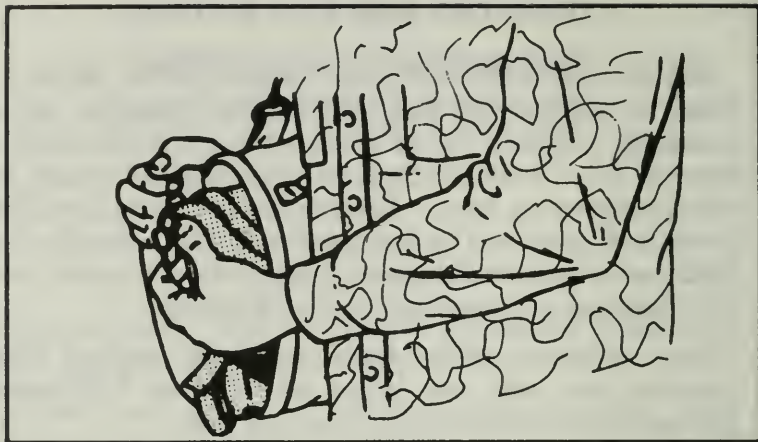

Figure 257. Remove mask from carrier.
(1) Stop breathing.
(2) Remove the helmet and place it between your knees or on your lap.
(3) If you are wearing glasses, take them off.
(4) Remove mask from carrier. Pull open flap on carrier. Grasp facepiece at top and remove from carrier (Figure 257). Allow hood to hang inside out in front of facepiece